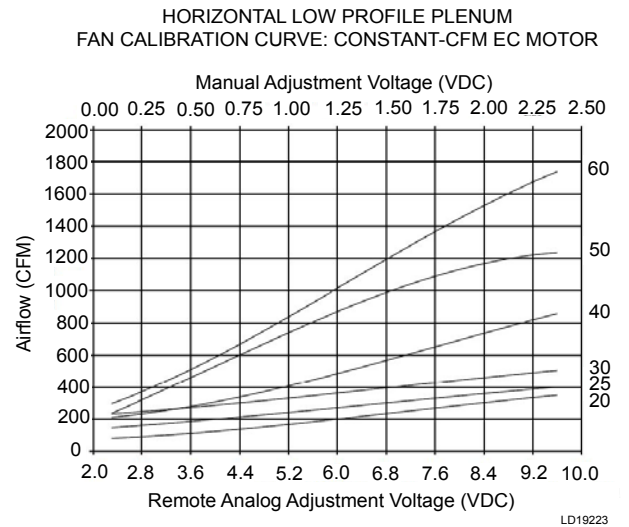

FIGURE 15 - CONSTANT AIRFLOW AND CONSTANT TORQUE EC MOTORS EXAMPLE FAN CALIBRATION CURVE
- b. Constant Airflow or Constant Torque EC Motor. Refer to *Figure 15* on page 27 for sample label. Several curves are shown on the label, one for each size unit. Refer to the 0 to 2.5 volt scale on the label and use the voltmeter to read the voltage across TP1 and TP3 to determine desired airflow setting.